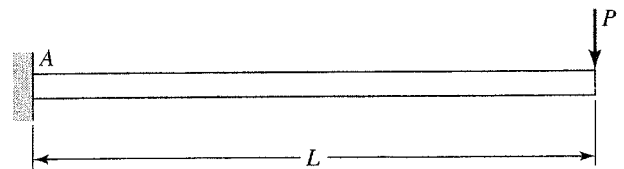

FIGURE P4.26
4.26. Consider a cantilever beam of rectangular cross section of width  $b$  and depth  $h$ . A lateral force  $P$  is applied at the free end of the beam (Figure P4.26). The beam material is elastic-perfectly plastic (see Figure 4.4a).